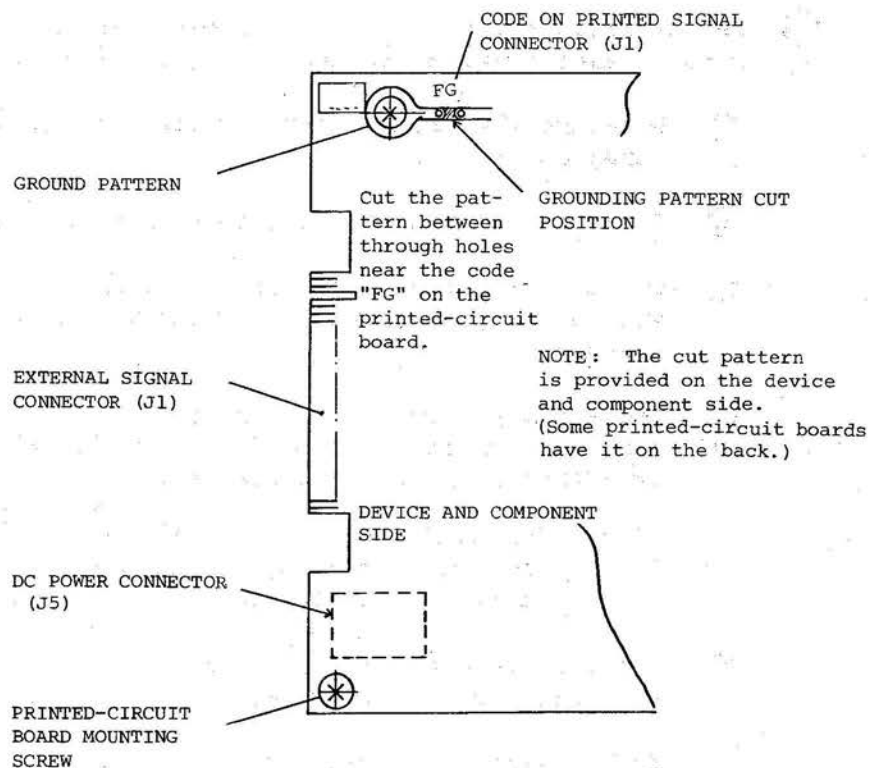

Figure 6
The signal and frame grounds are connected but may be separated by the user. Figure 6 shows the separation procedure.
- ② When separating the signal ground (SG) from the frame, cut the grounding pattern on the printed-circuit board as shown in figure 6.